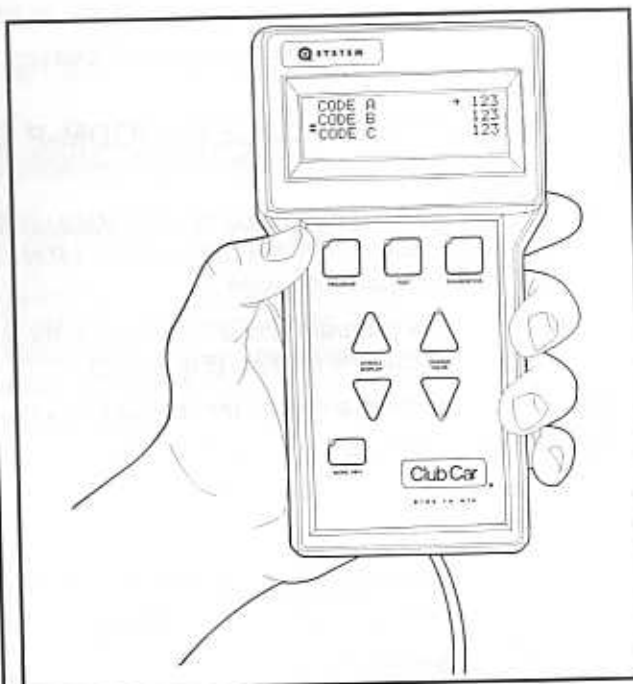

Figure 11 High Speed Code Entry Display
- 4.2. When the program menu is active, press a SCROLL DISPLAY button until **CODE A**, **CODE B**, and **CODE C** are all visible on the screen (Figure 11).
- 4.3.1. Press a SCROLL button (Figure 11), up or down, so that the arrow on the display points to **CODE A**. Then use a CHANGE VALUE button (Figure 11) to enter the value shown on the Passcode Decal for **CODE A**.